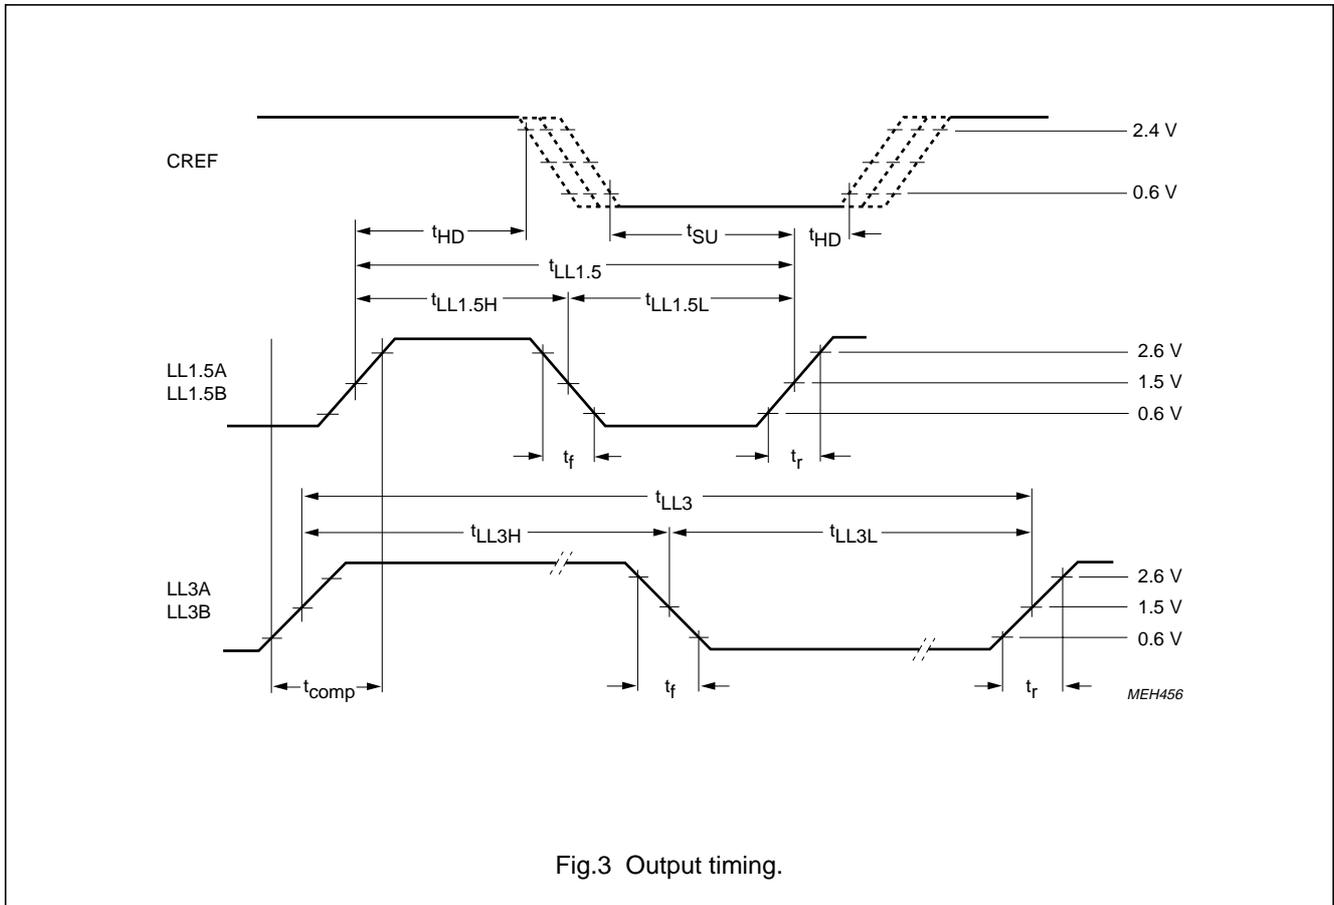

Fig.3 Output timing.
- $f_{LFCO} = 7.0 \text{ MHz}$  and output load  $40 \text{ pF}$  (Fig.3).  $V_{SSA}$  and  $V_{SSD}$  short connected together.
- $t_{comp}$  is the rise time from LOW of all clocks to HIGH of all clocks (Fig.3) including rise time, skew and jitter components. Measurements taken between 0.6 V and 2.6 V. Skew between two LLx clocks will not deviate more than  $\pm 2 \text{ ns}$  if output loads are matched within 20%.